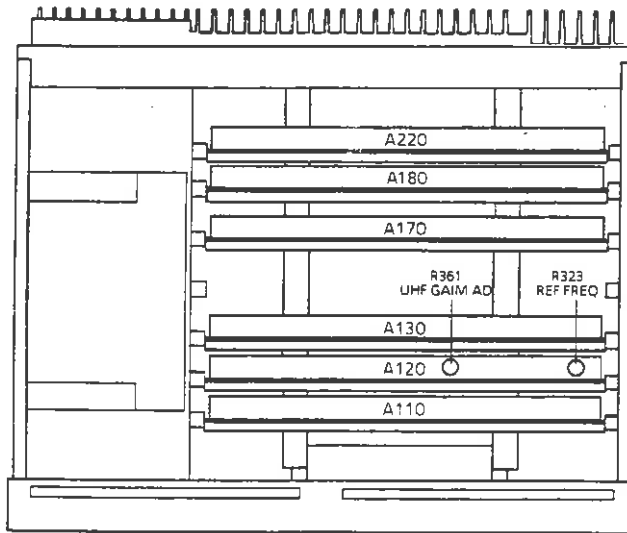

Fig. 4-2 Location of the potentiometer VREF FREQ, R323 (instrument seen from above)
- ▶ Adjust the frequency accuracy to 64 MHz \pm 10 Hz using the potentiometer REF FREQ, R323 (fig. 4-2).